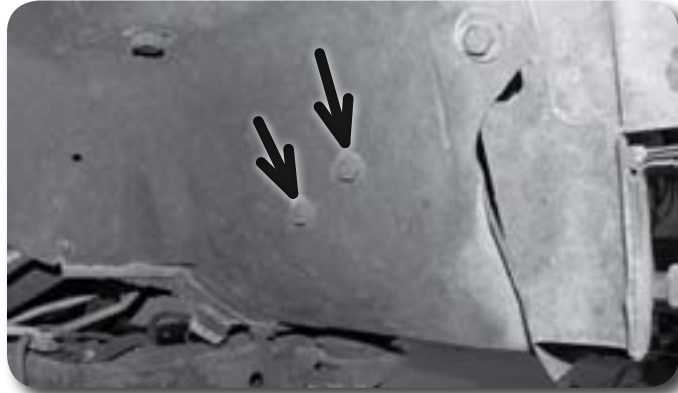

Figure 13
23. **4wd only:** Remove the two bolts mounting the front axle actuator to the passenger's side inner fender. The bolts are accessed from inside the wheel well **Figure 13**. Save bolts.
64. **4wd only:** Measure and mark 1/2" to the inside of the axle actuator mounting holes on the inner fender **Figure 13**. Drill a 3/8" hole at each mark.